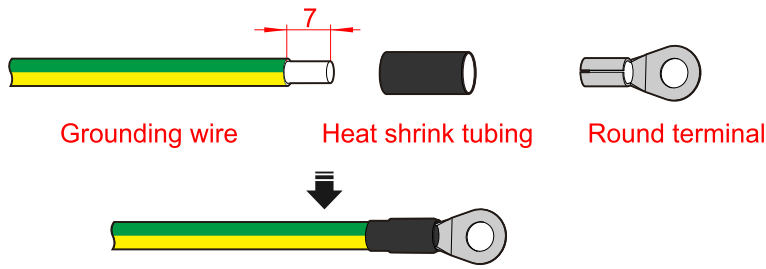

Figure3-13 Crimp the grounding wire (unit: mm)
- Step 1 Strip the insulation layer of the grounding wire by wire stripper,, and crimp it into the equipped round terminal, as shown in Figure3-13.